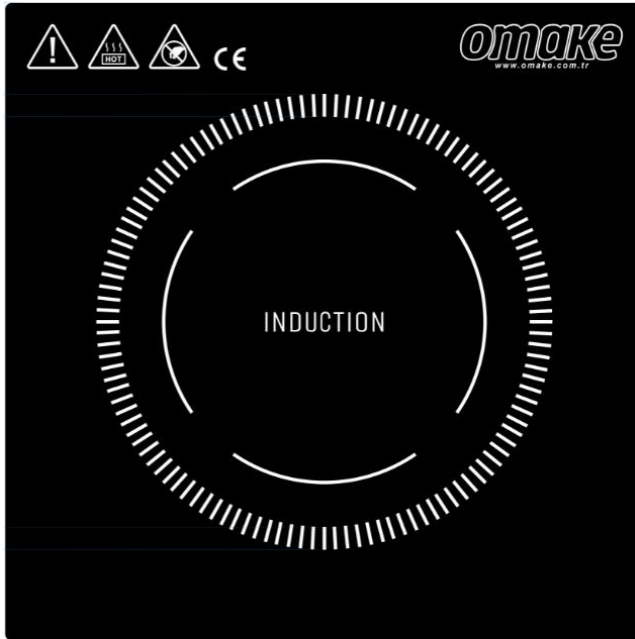

Figure 1: Ceramic glass
- Information about the touch type is given in figure 1 above.